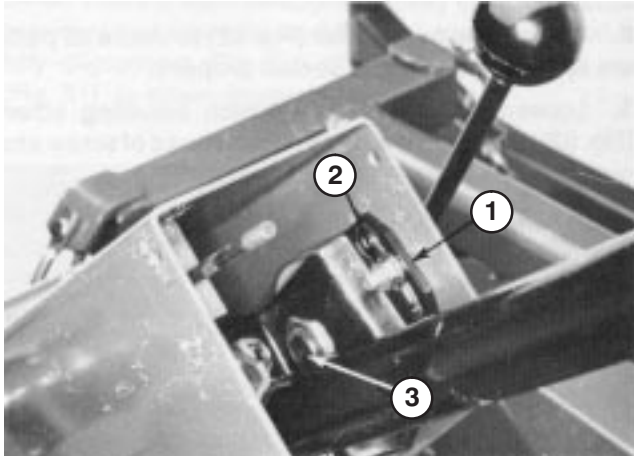

Figure 53
1. Remove knob from parking brake and self tapping screws from steering column cover. Slide cover up steering shaft to expose pivot bracket (Fig. 53).
2. Loosen small nut, rotate pivot bracket until it tightens large nut below (Fig. 53). Retighten small nut.